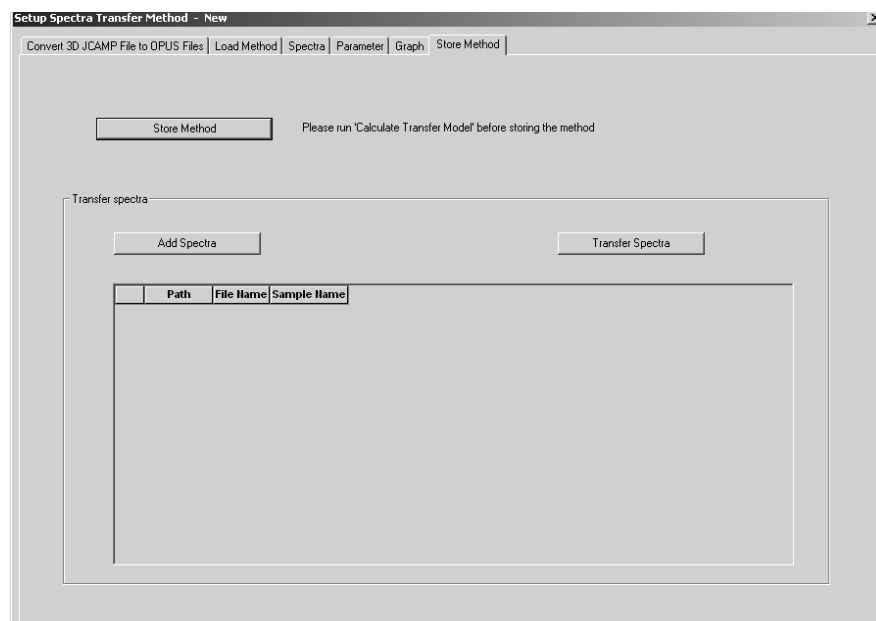

Figure 120: Setup Spectra Transfer Method - Store Method
- 1) Click in the *Setup Spectra Transfer Method* window, on the *Store Method* page (figure 120), on the *Add Spectra* button and select the original spectra you want to transfer to OPUS. The spectra are added to the table below. Now click on the *Transfer Spectra* button. As a result of this, the transferred spectra are stored in the subfolder *Transfer* that has been created automatically in the directory of the original spectra.